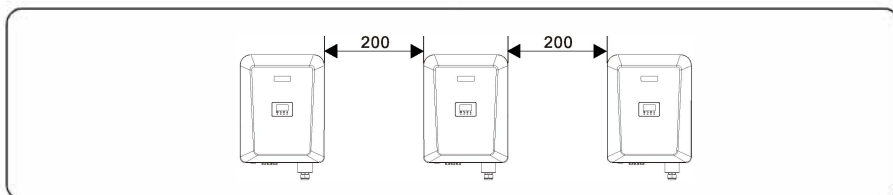
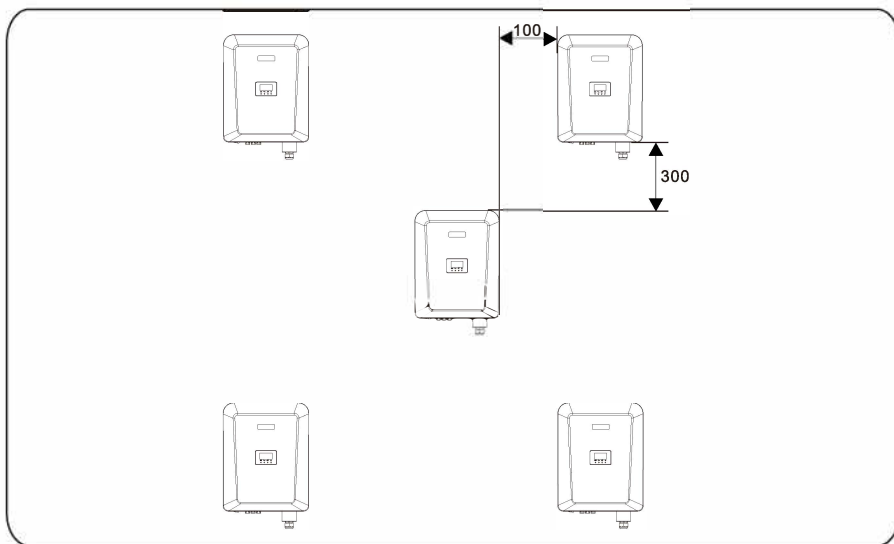
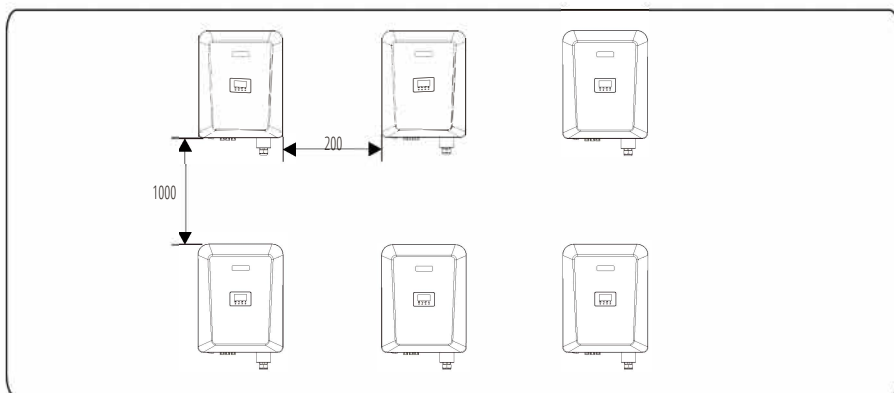

Figure 4.5 Installation along the same line (unit: mm)
Figure 4.6 Installation in triangle mode (unit: mm)
Figure 4.7 Installation in stacked mode (unit: mm)
- c. When installing multiple inverters, install them along the same line (as shown in Figure 4.5) if sufficient space is available, and install them in triangle mode (as shown in Figure 4.6) or in stacked mode (as shown in Figure 4.7) if no sufficient space is available. The installation modes ensure sufficient space for installation and heat dissipation.